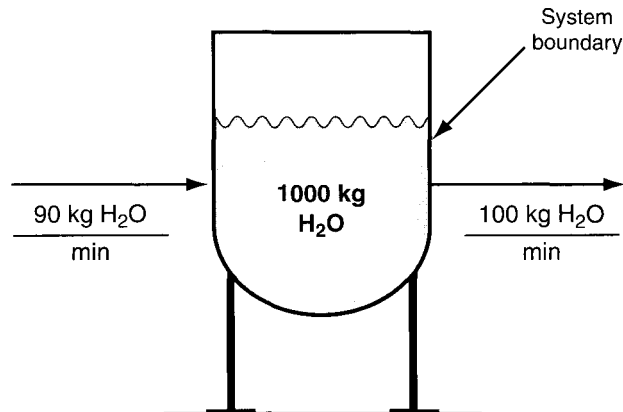

Figure 5 Initial conditions for an unsteady – state process with negative accumulation.
- ★ **Figures 5 and 6 demonstrate negative accumulation.**